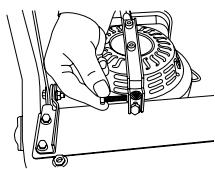
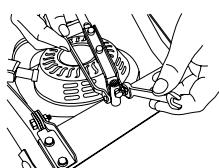
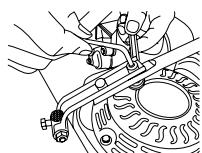

Figure1
Figure2
Figure3
- **Control level assembly:** remove the ball knob from the control lever first, insert the control lever into gearcase, then fasten the ball knob. Find the center pivot in the bottom of the housing, please insert bolt into spring leaf and shaft with 2 screws (see Figure1).Secure the screwes with wrench(Figure 2). Please use sock wrench to tighten the setting screw which connecting control level with spring leaf. (Figure3). Then Please twist the setting screwes blow the shaft tightly with a wrench (Figure4).